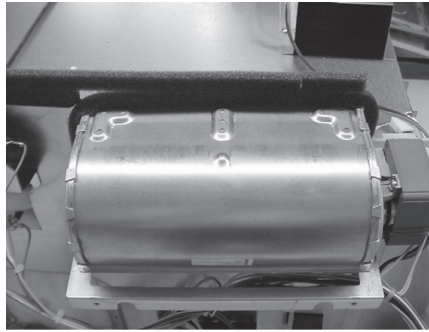

Fig. O-11
3. Unhook all wiring from Blower Motor (**Fig. O-11**)
5. Remove the (2) screws holding the Blower Motor to the Rear Plate.